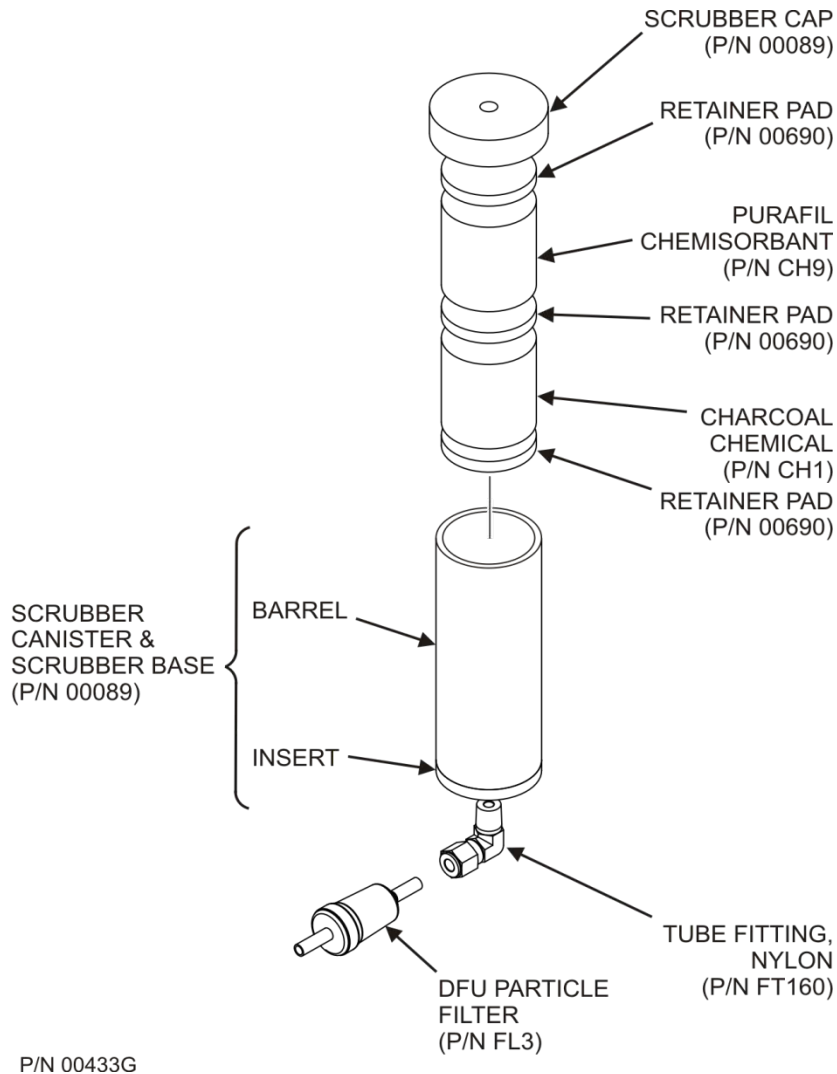

Figure 5-9. Zero Air Scrubber Assembly
1. Locate the scrubber on the outside rear panel; Figure 5-9 shows the exploded assembly.
- Use three, white retainer pads to separate the chemicals as shown Figure 5-9.